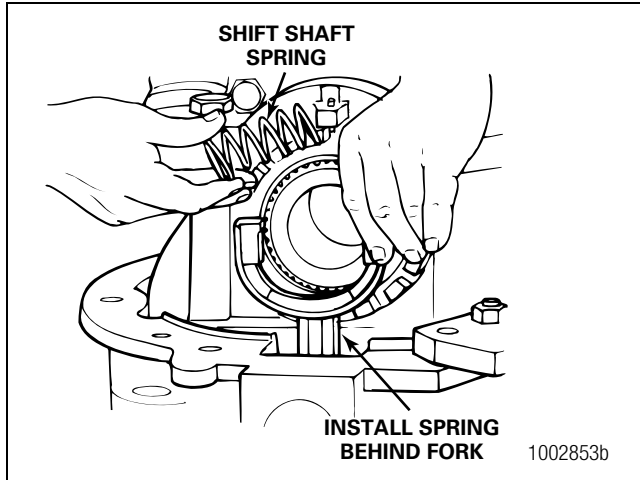

Figure 6.18
2. Compress the shift shaft spring as required and install it between the back of the fork and carrier wall inside the carrier. Figure 6.18.